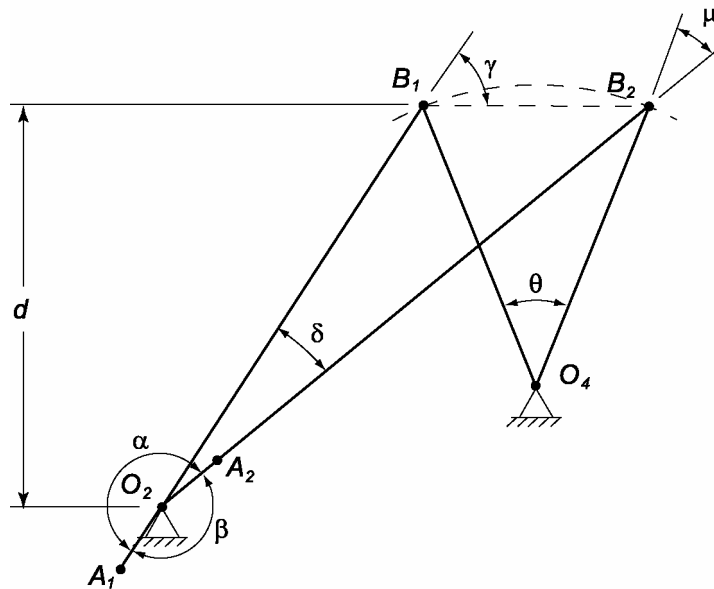

Figure 1: A sample of a graphical design of a crank-rocker quick-return mechanism.
The following steps describe a graphical method of designing three and four-bar quick return mechanisms. You will need a pencil, ruler, compass, and protractor for this design; refer to Figure 1 below during this process.
The intersection of the line drawn in step 2 and the line through B_2 at angle δ is the crank pivot O_2 (refer to Figure 1 above).
where ℓ_{CPL} is the length of the coupler, ℓ_{CR} is the length of the crank, and $L_{O_2B_1}$ is the distance between O_2 and B_1 , and $L_{O_2B_2}$ is the distance between O_2 and B_2 in Figure 1 above.
where d is the perpendicular distance between O_2 and the line passing through B_1B_2 , as indicated in Figure 1. Both of these criteria must be satisfied for the crank to rotate a full revolution. At this point the design for your crank-slider linkage is complete.
8. The transmission angle μ is the angle between the coupler and rocker. In the case of the crank-slider, the rocker is a link of infinite length, so the transmission angle is measured between the coupler and a line perpendicular to the slider path. When you have completed your designs, they should look something like Figure 1 above.